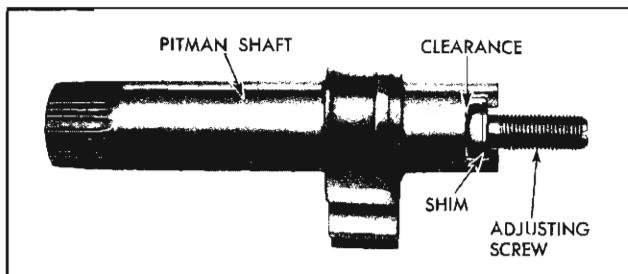

Fig. 9-18 Pitman Shaft and Adjusting Screw
4. Remove adjusting screw from slot in end of pitman shaft. Make sure shim found on adjusting screw remains with screw (Fig. 9-18).
5. Install pitman shaft adjusting screw and selective shim in pitman shaft (Fig. 9-18). NOTE: Screw must be free to turn, but have no more than .002" end play. If end play of screw in slot is too tight or too loose, select new shim to give proper clearance. Shims are furnished in four thicknesses: .063", .065", .067", and .069".